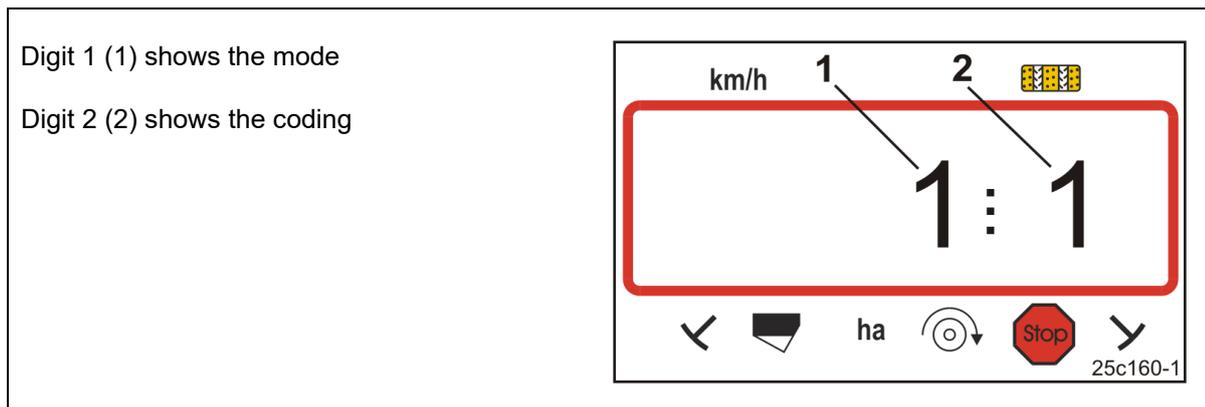

Fig. 14
The control terminal requires input of the implement data in coded form (see Fig. 14).
- Open mode 1 (see Fig. 14).